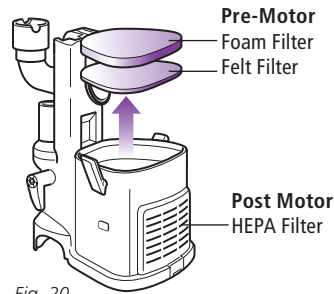

Fig. 20
- 2 Pull the 2 filters out from the top of the motor base. **(Fig. 20)**